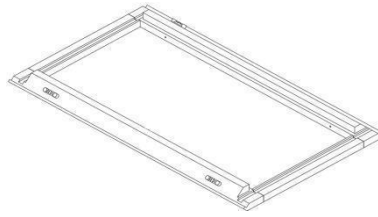

Figure 1
1. Place the face frame (**A**) face down on a flat soft working surface to ensure that the face is not scratched or damaged (**Figure 1**).